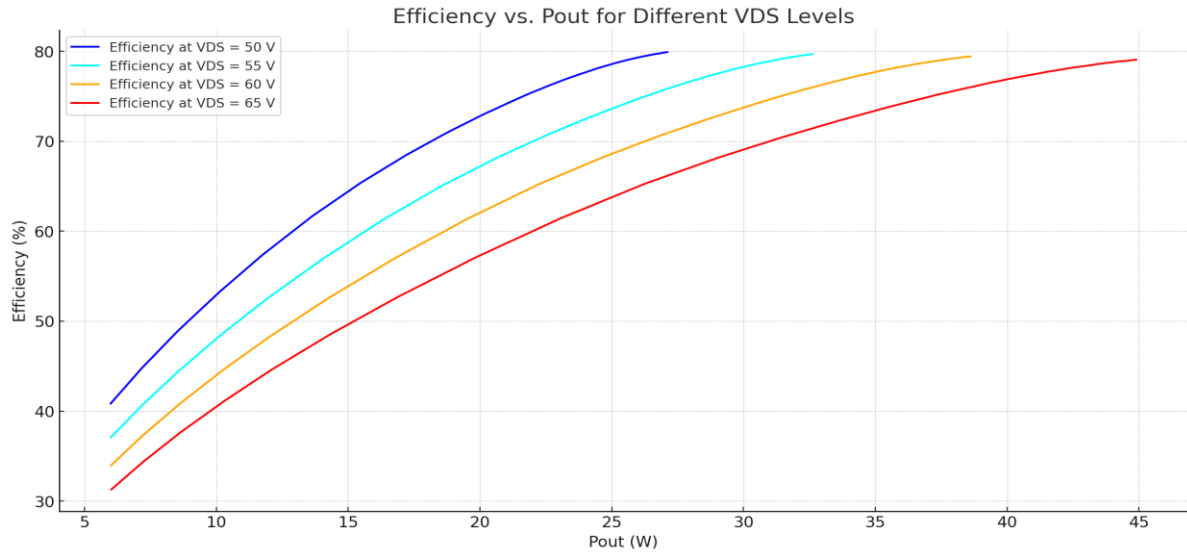

Figure 5 Efficiency vs Output Power at different VDS levels
- Figure 5 Efficiency vs Output Power at different VDS levels 6